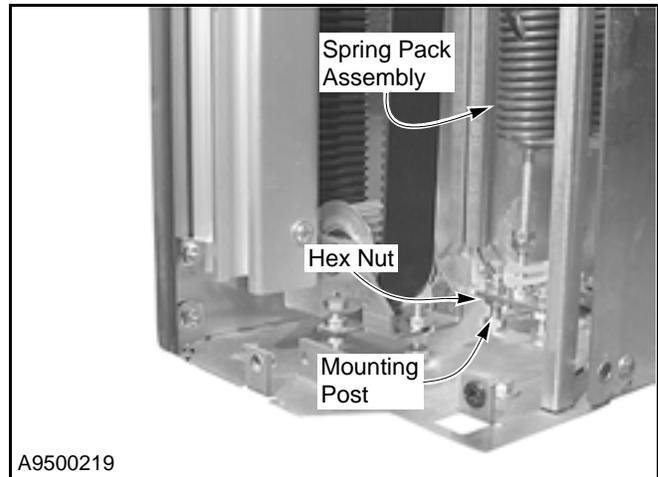

Figure 72
- Attach the spring pack to the mounting posts on the base plate. To retain the preload setting, tighten only the lower nuts against the bottom of the mounting plate — do not adjust the upper pair of nuts. (See Figure 72.)